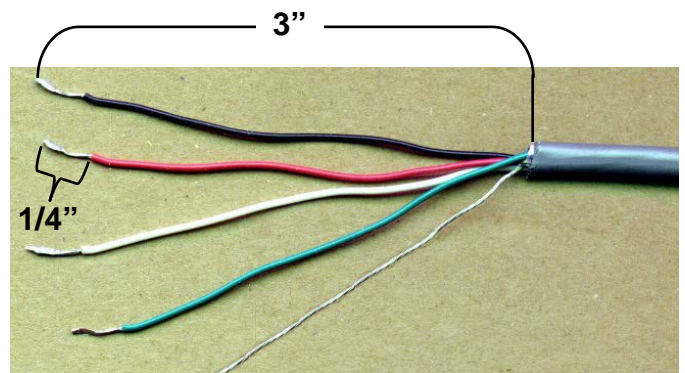

Figure No. 13
4. Referring to Figure No. 13, remove 3 inches of the outer insulation jacket of the cable.